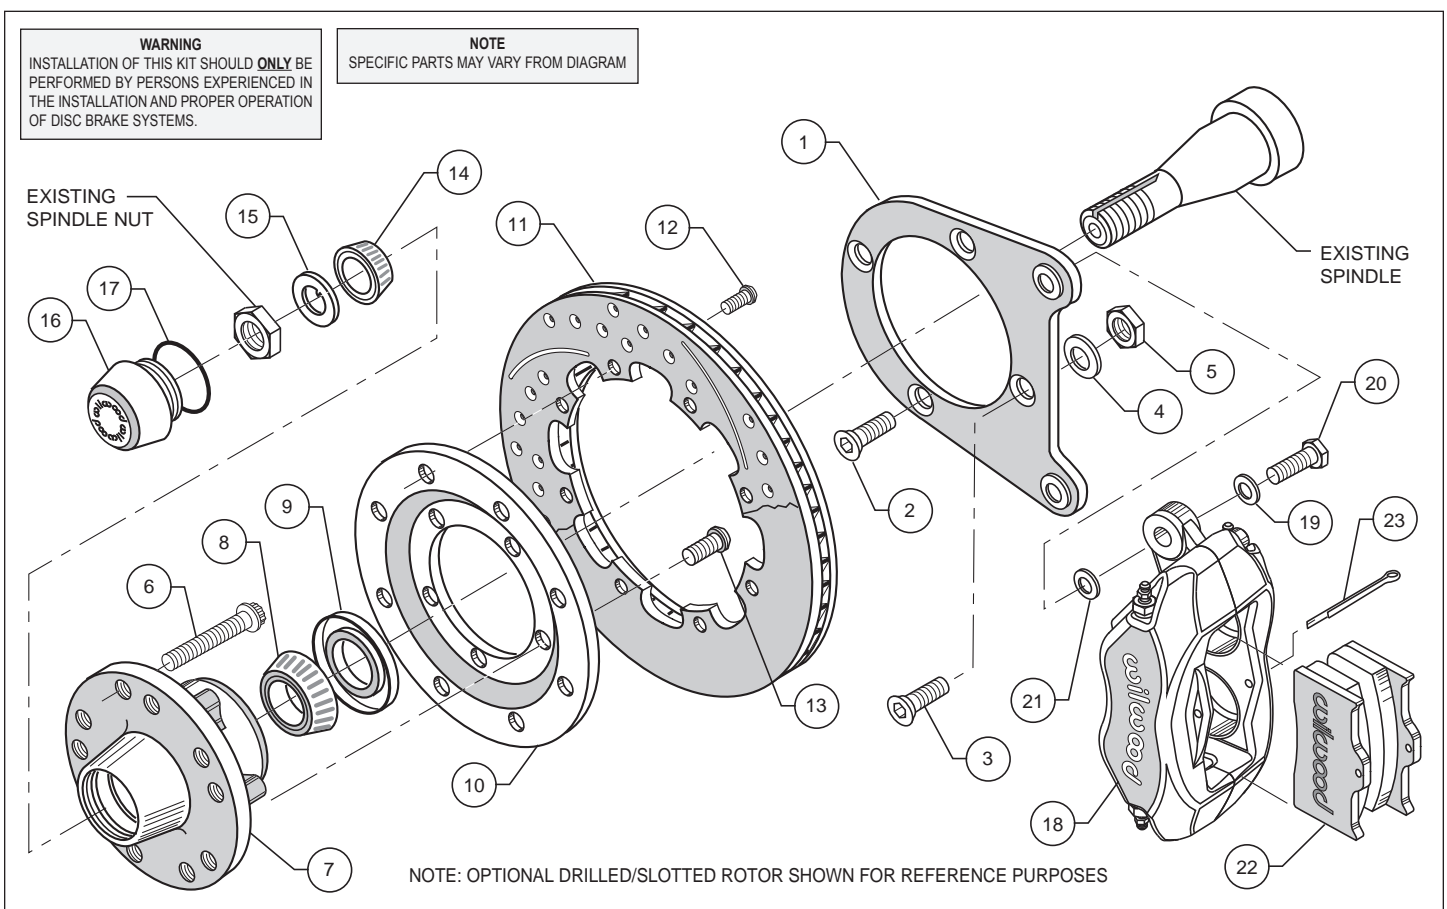

Figure 1. Typical Installation Configuration
- Apply red *Loctite*® 271 to bolt threads (2 and 3) before assembly of the caliper mounting bracket (1). Mount bracket (1) to dust face plate of spindle by screwing bolts (2) into steering arm, finger tighten only. Install bolts (3) through caliper mounting bracket (1) and steering arm, secure with washer (4) and nut (5), finger tighten only. Torque bolts (2 and 3) to 80 ft-lb. **NOTE:** Be sure the heads of the bracket (1) insert nuts are facing outward toward the wheel.
- Install wheel studs (6) into the hub (7). Torque to 77 ft-lb. **NOTE:** There are two five lug patterns in the hub (5 x 4.50 and 5 x 4.75). Make sure of the correct hole pattern for the correct wheel application before installing studs into hub.
- Pack the large inner bearing cone (8) with high temperature disc brake bearing grease (available from your local auto parts store) and install into the backside of the hub (7).
- Install the grease seal (9) by pressing into the backside of the hub (7).
- Orient the rotor (11) and the rotor adapter (10) as shown in Figure 1. Attach the rotor to the adapter using bolts (12). Using an alternating sequence, apply red *Loctite*® 271 to the threads, and torque to 25 ft-lb.
- Mount the adapter/rotor assembly (10/11) to the hub (7) using bolts (13), as shown in Figure 1. Using an alternating sequence, apply red *Loctite*® 271 to the threads, and torque to 55 ft-lb.
- Pack the small outer bearing cone (14) with high temperature disc brake bearing grease and install into front of hub (7). Slide the hub/rotor assembly (7 and 11) with outer bearing cone (14) onto the spindle. Secure using new spindle washer (15), your adjusting nut and nut locking device. Adjust bearings per Original Equipment Manufacturer (OEM) specifications.
- Install the dust cap (16) onto the hub (7). Friction created by the o-ring (17) on the dust cap (16) keeps it from unscrewing. Be sure the spindle washer (15) seats properly against the hub face.